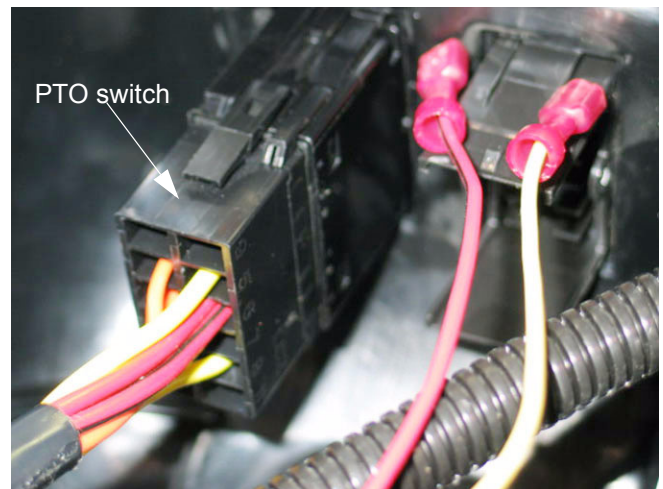

Figure 2.10
- 2.10. The PTO switch is more complex. See Figure 2.10.